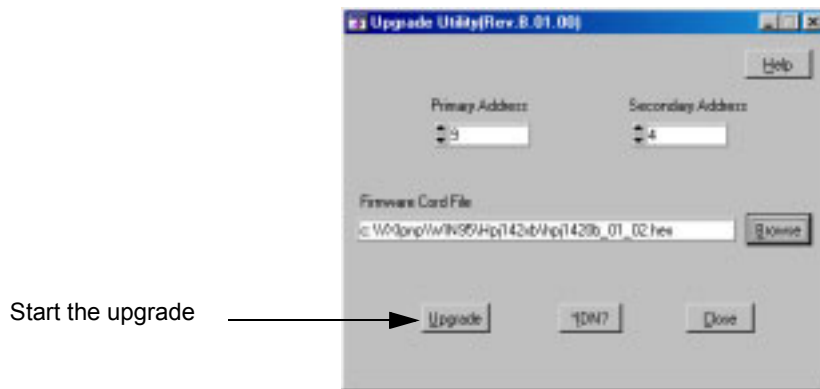

Figure 7-4. Start the Upgrade
4. Click on the required code file, then click the **Select** button which will produce the “Upgrade Utility” window as shown in Figure 7-4.